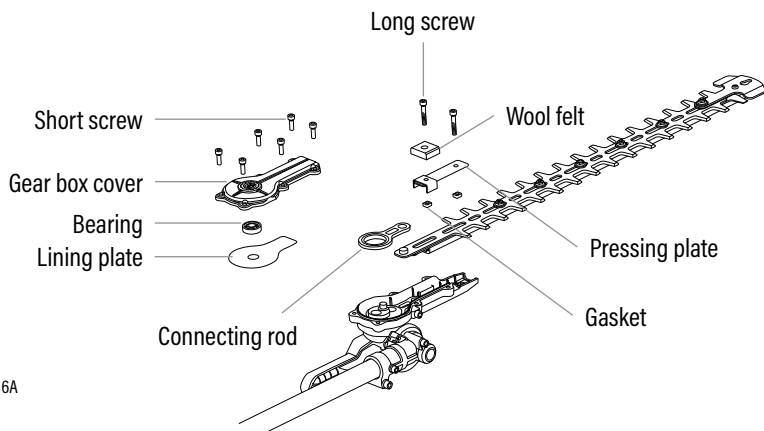

Fig. 6A
2. Adjust the blade to the horizontal position (0°), ensuring that the blade assembly is in line with the hedge trimmer shaft, and put the gearbox cover upwards. (Fig. 6A)